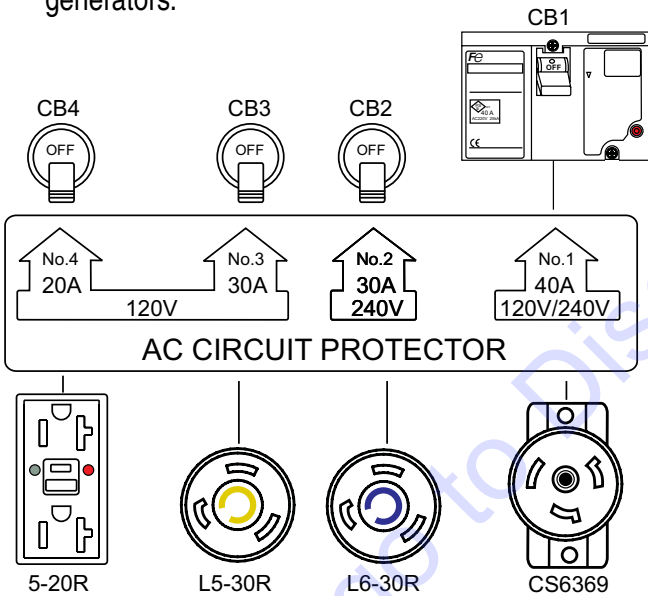

Figure 19. Circuit Breakers
1. To protect the welder-generator from an overload, a 3-pole, 40 amp, **main** circuit breaker (Figure 19) is provided. In addition, there are three circuit breakers provided to protect the GFCI and auxiliary receptacles from overload. Make sure to switch **all** circuit breakers to the **OFF** position prior to starting the welder-generators.